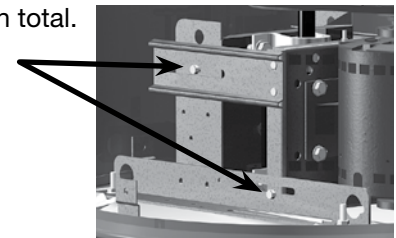

Figure 12
10. Belt tension can be adjusted by loosening four fasteners on the drive frame. See Figure 12. The motor plate slides on the slotted adjusting arms and drive frame angles in the same manner.
Belts too tight or too loose	Adjust tension, see page 6, Figures 12 and 13.